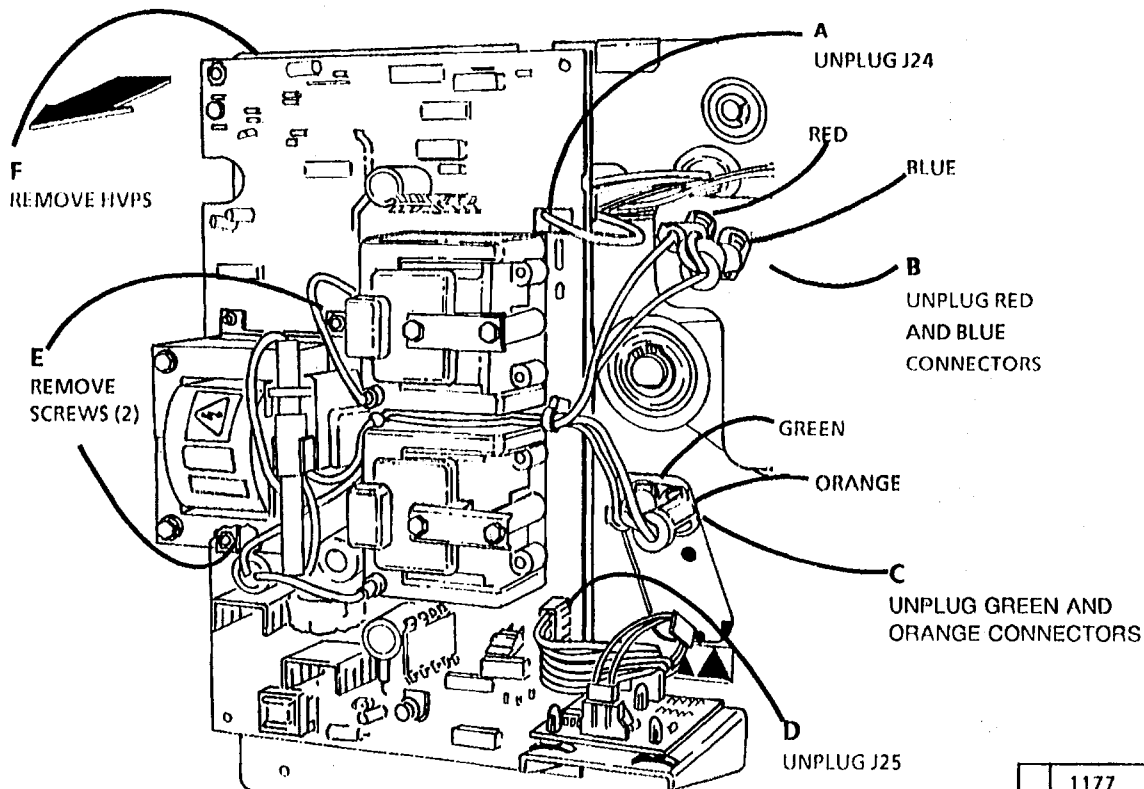

Figure 1. Removing the High Voltage Power Supply (HVPS)
3. (Figure 1): Remove the high voltage power supply (HVPS).